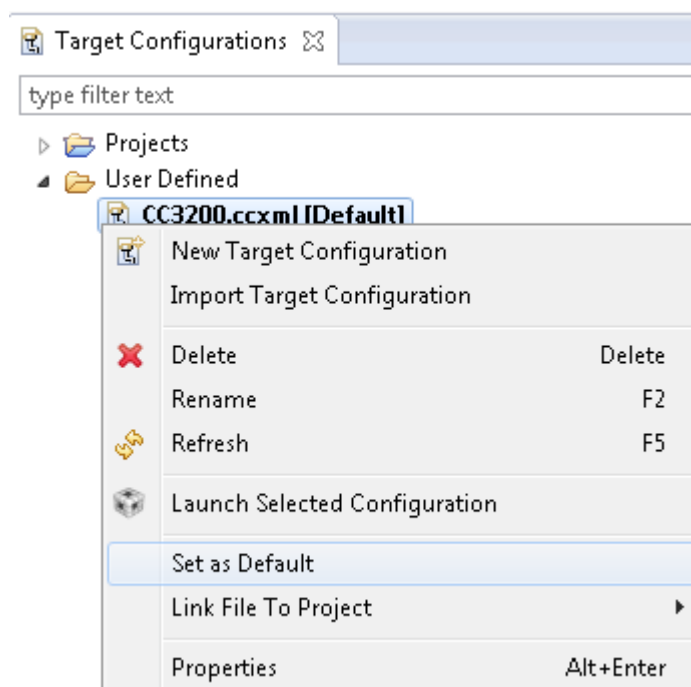

Figure 12. Set as Default
15. Set this new configuration as the default by right clicking on the file name as shown in Figure 12.